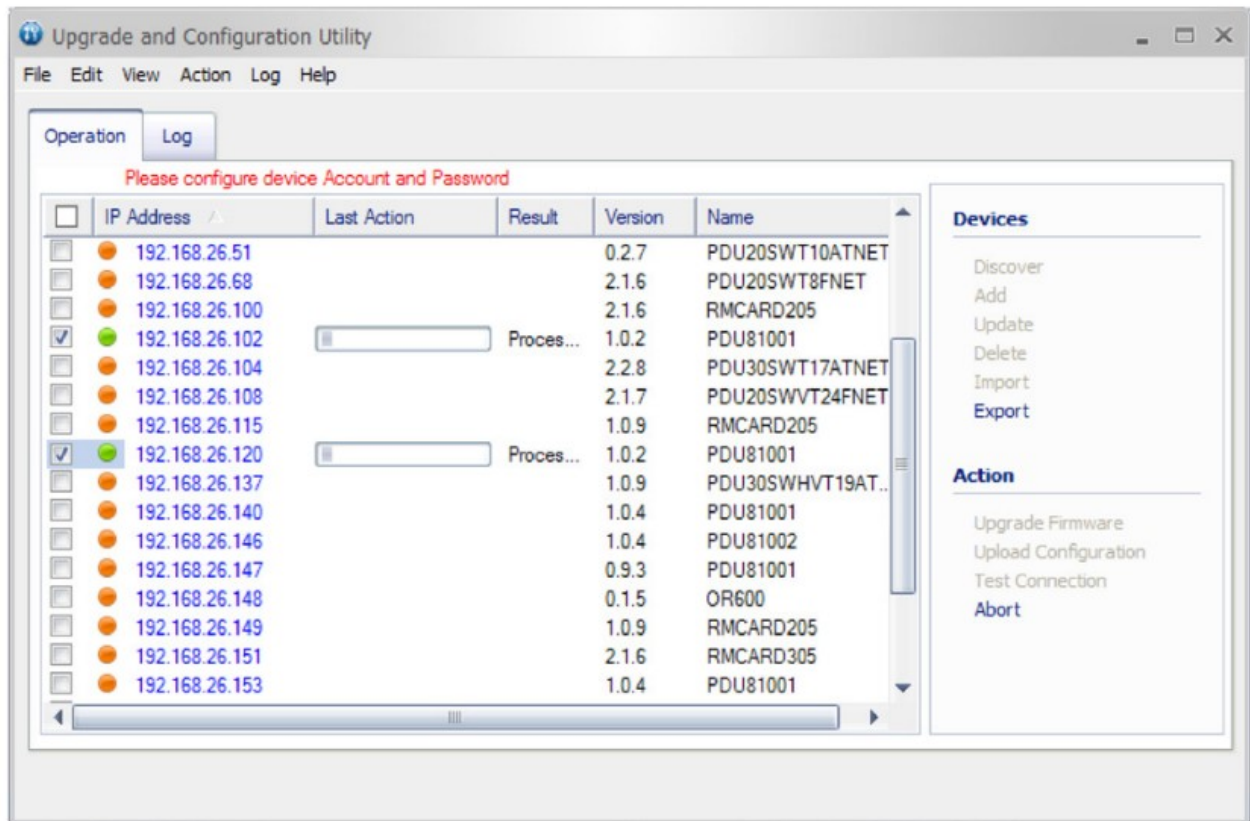

Figure 6
9. The upgrade progress bar will show in Last Action column (Shown in Figure 6).